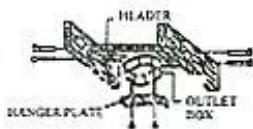

FIGURE 1
1. Utilizando dos tornillos, fijar el sistema de anclaje. (Fig.1)
1. Using two screws fasten hanger plate or J hook to ceiling outlet box as shown in Fig. 1.